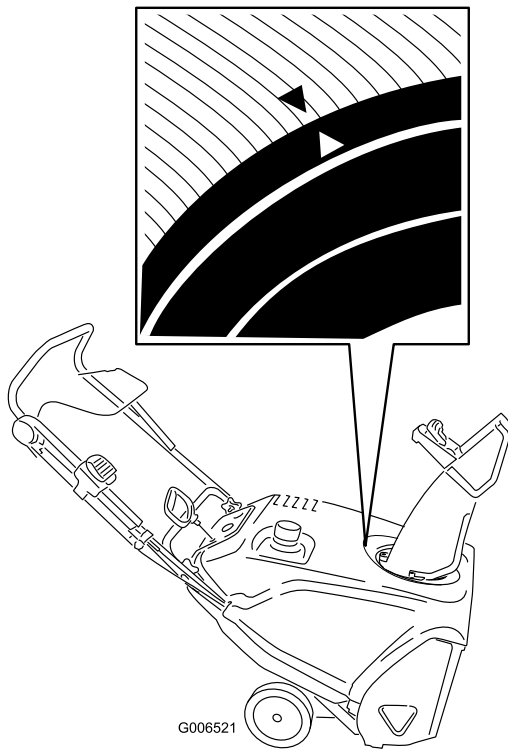

Figure 33
3. Rotate the discharge chute so that it faces straight ahead and the arrow on the back of the discharge chute aligns with the arrow on the shroud (Figure 33).